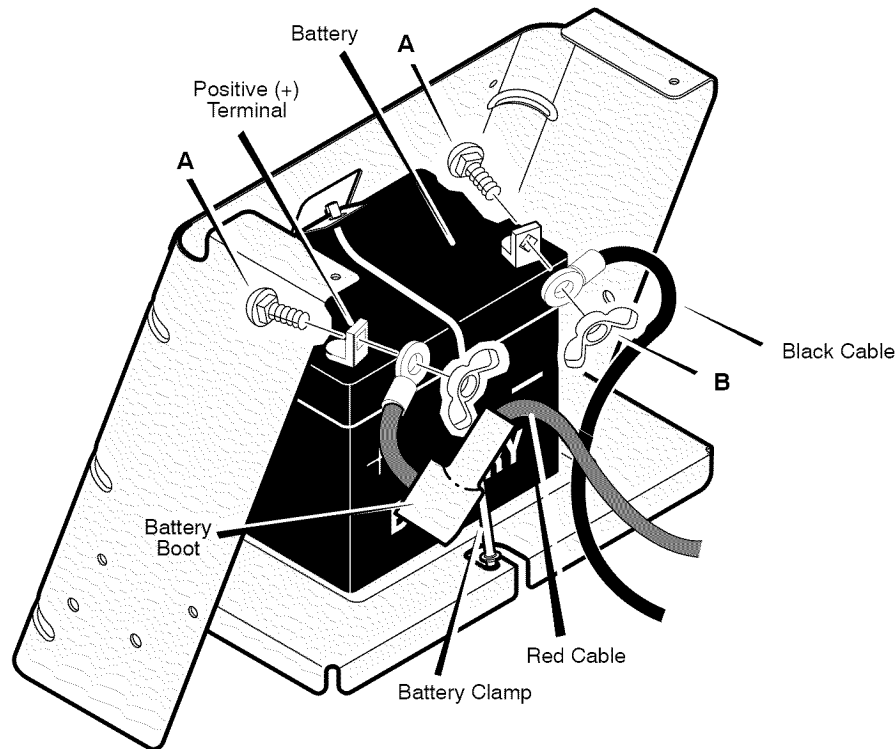

Figure 18
1. Disconnect the **black cable** from the **negative (-) terminal** (Figure 18).